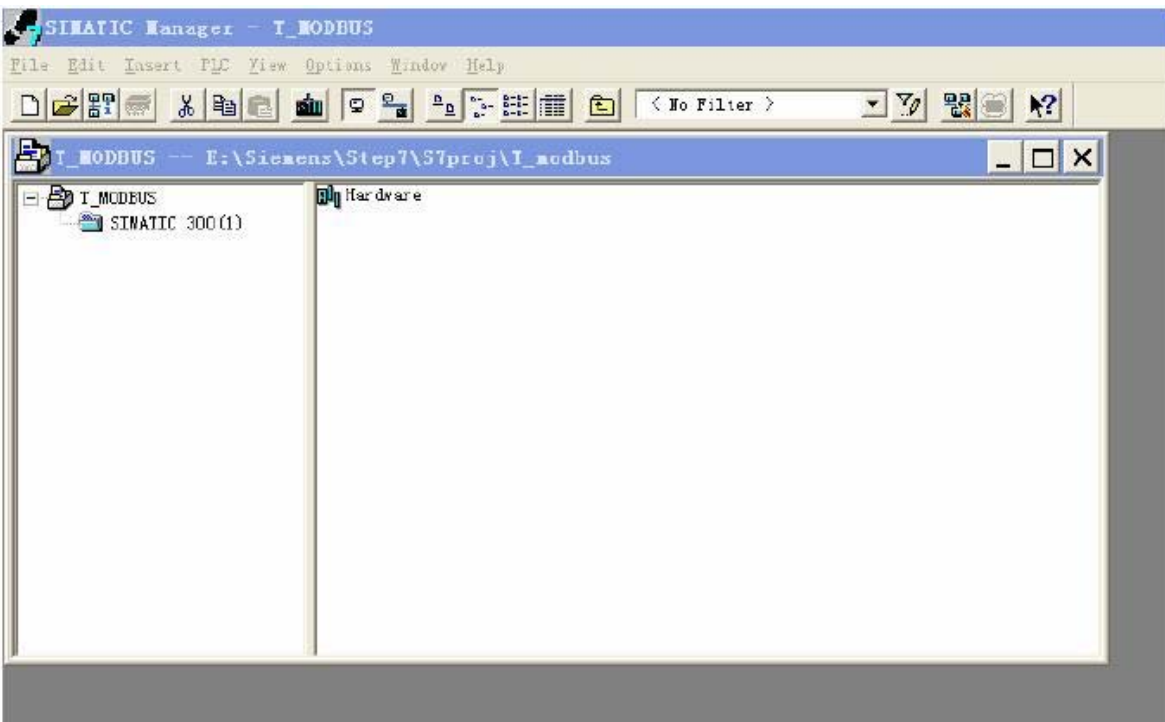

Figure 4
4. Open S7 PLC hardware configuration: SIMATIC 300(1)->Hardware, double-click; Figure 4: